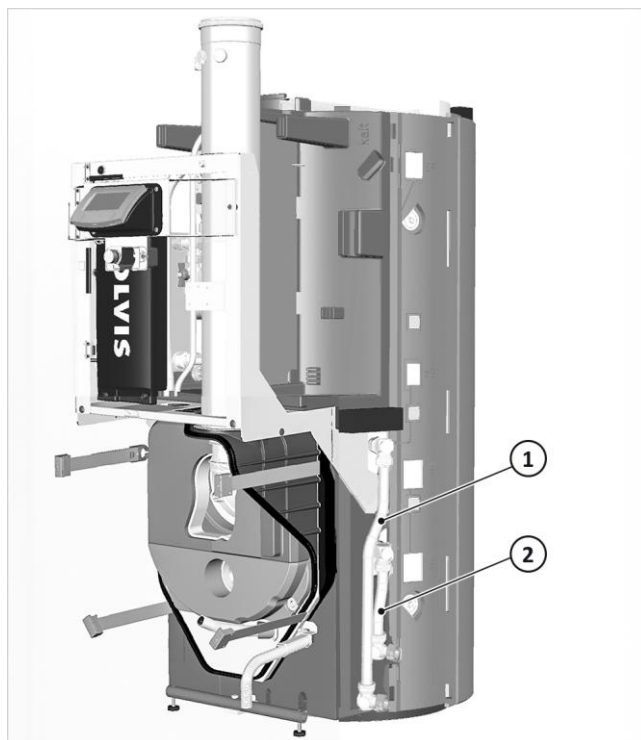

Fig. 37: H-VL (1)/H-RL connection (2) for external heating circuit stations
- Remove the two elbows on the heating flow and heating return connections (see ➔ fig. 37, page 19).